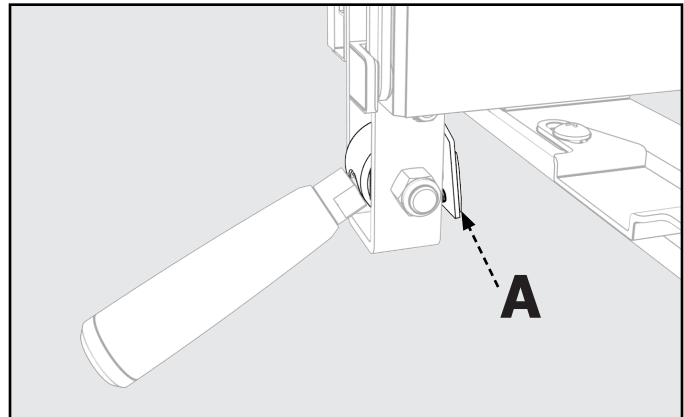

FIGURE 18
2. Occasionally apply Grease to the Cam Lock, and the Cam Foot (A), shown in **Figure 18**, to prevent wear.